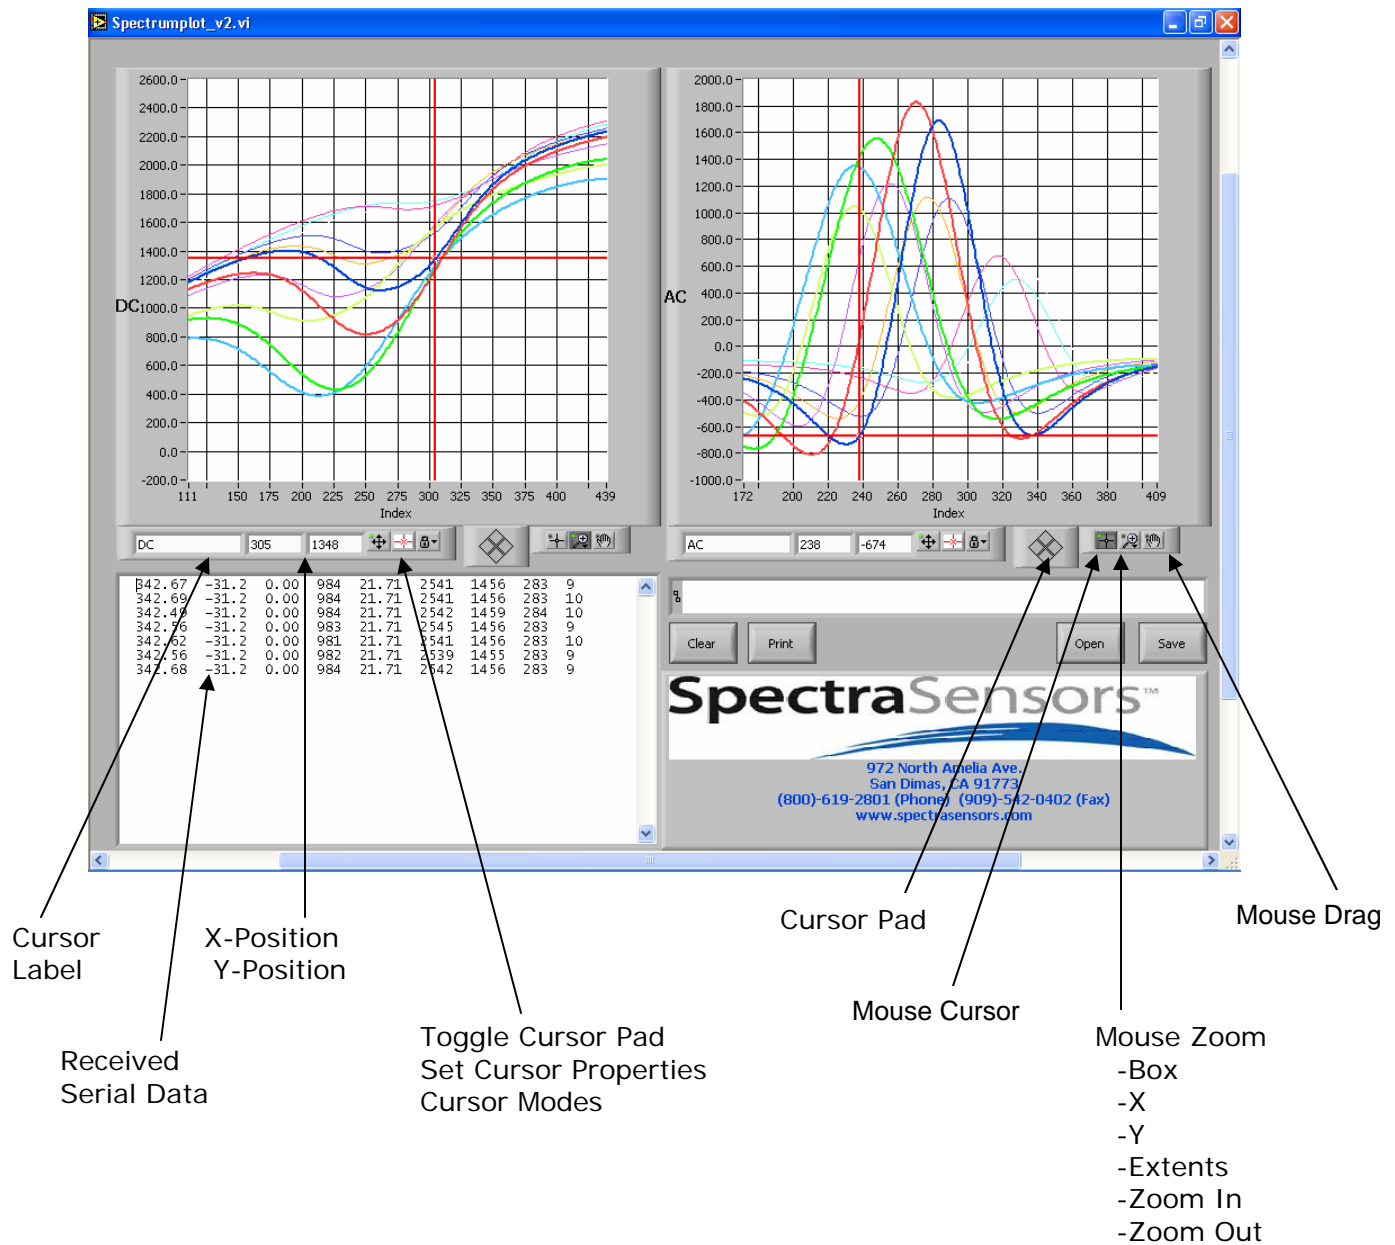

Figure 20: SpectrumPlot view
4. To view spectrum, press **Clear** to first clear the graph and then press **# 6** on the analyzer keypad. Two plots display, **DC** on the left and **2F** on the right (see **Figure 20** on page 43).